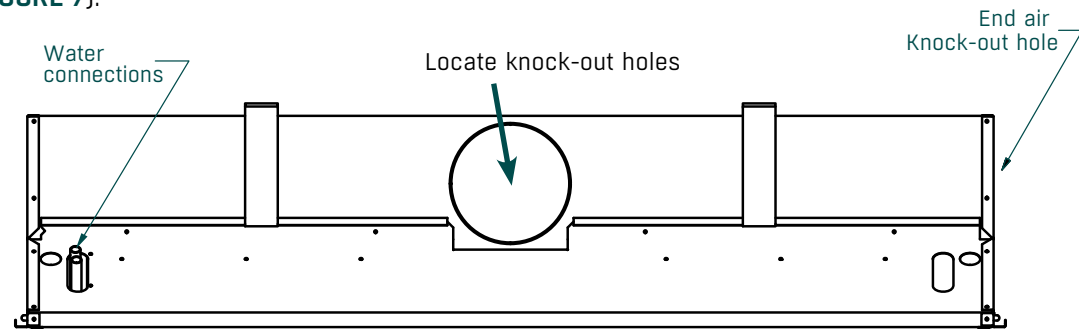

FIGURE 7. Water and duct connections (side view)
- 1) Cut the four small tabs from the selected knock-out panel, best snipped with side cutters (See **FIGURE 7**).